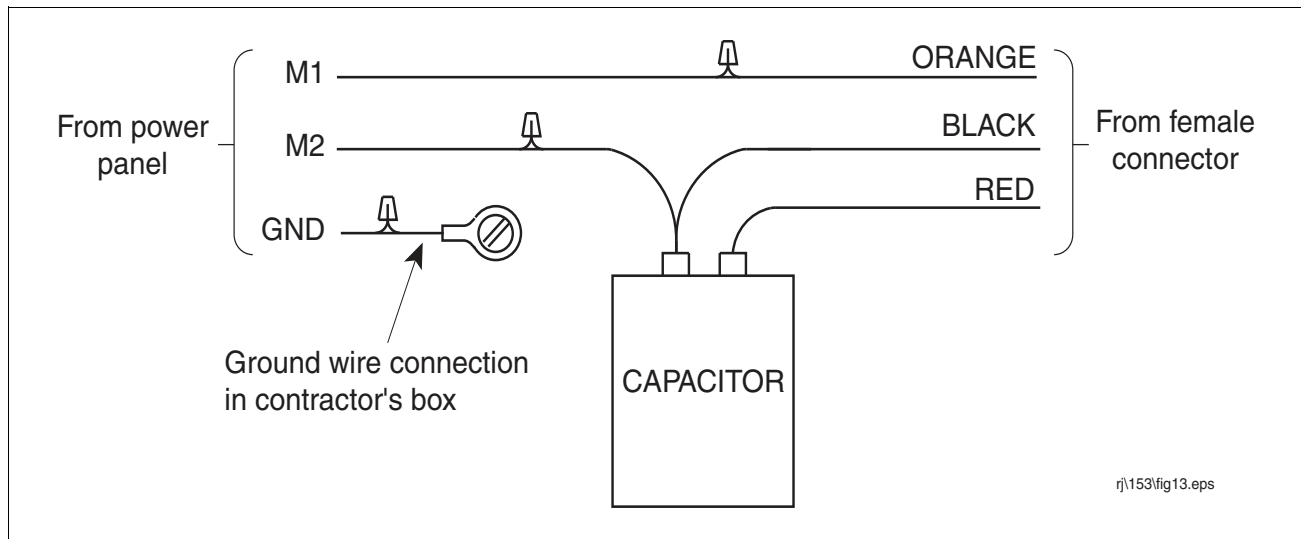

Figure 37. Wiring Schematic
17. Using supplied wire nuts attach like colored pump pigtail wires to like colored electrical connector wires as shown in Figure 37.